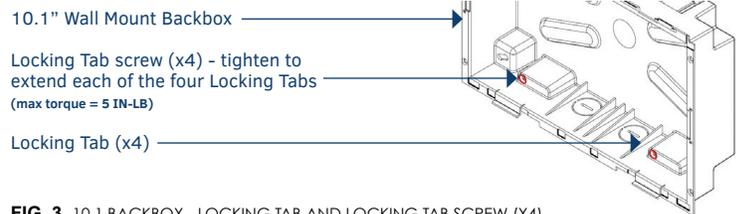

FIG. 3 10.1 BACKBOX - LOCKING TAB AND LOCKING TAB SCREW (X4)
5. Extend the Locking Tabs by tightening the Locking Tab screws until snug (FIG. 3):